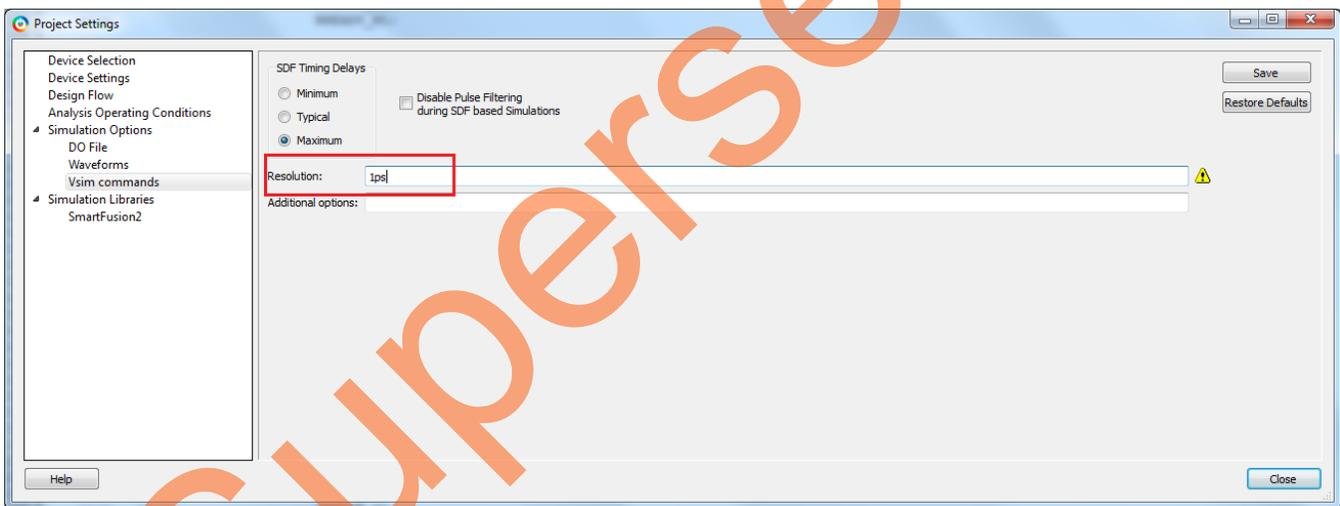

Figure 33. Simulation Resolution
3. Select the **Vsim Commands** option under the **Simulation Options**, and modify the **Resolution** to **1ps**, as shown in Figure 33. This option sets the simulation resolution to 1ps.